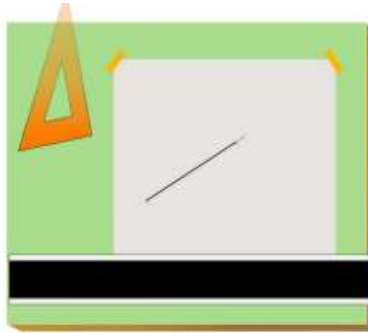

Figure 4 The Finished Line
- The darkened visible line is drawn the desired distance as shown in Figure 4.